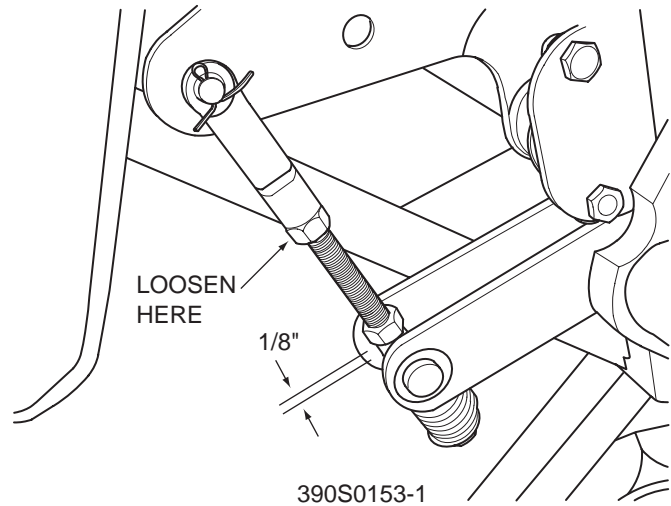

Figure 6-2 Brake Rod Adjustment
4. With the brake in the engaged position, check the distance between the lower nut on the brake actuator rod and the brake actuator lever on the LH side of the machine. The distance should be 1/8" (See Figure 6-2).
5. If the distance is not at the specified measurement, loosen the jam nut at the clevis on the top of the brake actuator rod (See Figure 6-2).
6. Turn the bolt at the bottom of the brake actuator lever until the 1/8" measurement is achieved and tighten the jam nut at the clevis on the brake actuator rod. (See Figure 6-2).